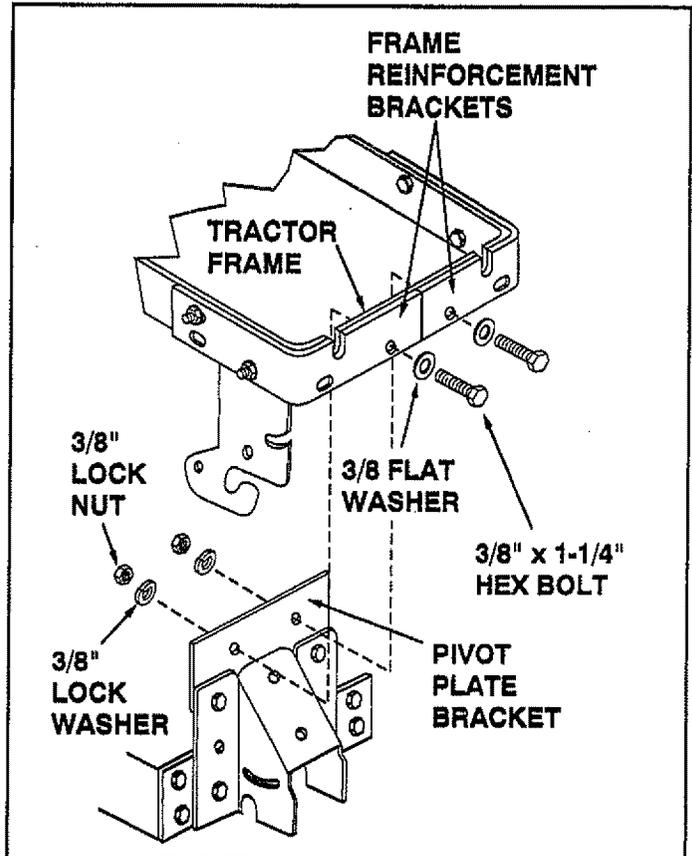

FIGURE 6
- Attach blade frame assembly to inside of tractor frame by aligning holes in pivot plate bracket with holes in front end of tractor frame and holes in frame reinforcement brackets. Secure using two 3/8" x 1-1/4" hex bolts, 3/8" flat washers, 3/8" lock washers and 3/8" lock nuts. **Tighten.** See figure 6.